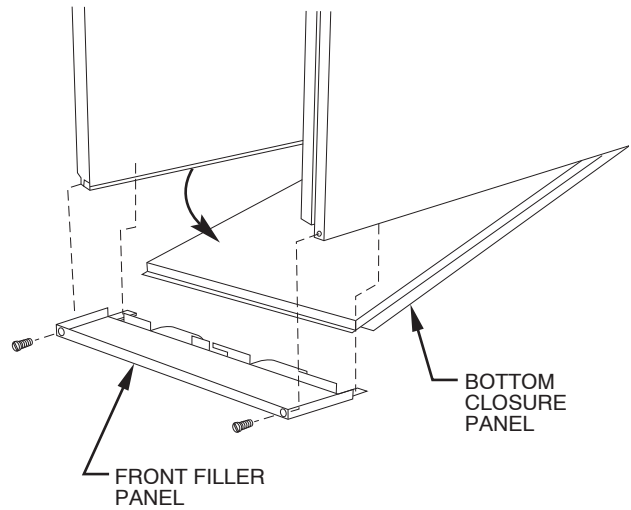

Fig. 16 - Removing Bottom Closure Panel
1. Tilt or raise furnace and remove 2 screws holding front filler panel. (See Fig. 16.)